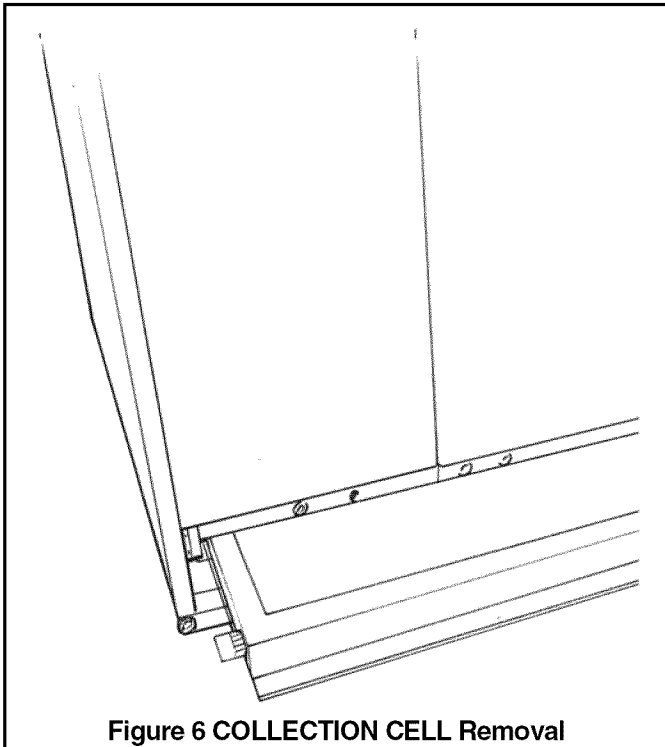

Figure 6 COLLECTION CELL Removal
- Before installing unit, remove thumbscrews to the filter panel. Carefully remove the COLLECTION CELL by grasping the leading edge of the frame. See Figure 6. Set aside in a safe place until the unit is set in place and ready to start up.
- a. Before installing unit, remove thumbscrews to the filter panel. Carefully remove the COLLECTION CELL by grasping the leading edge of the frame. See Figure 6. Set aside in a safe place until the unit is set in place and ready to start up.